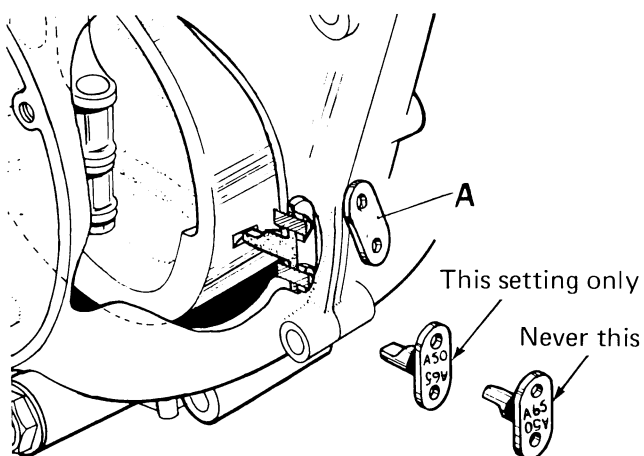

Fig. 21-20 Timing: pin through case (Triumph Norton Incorporated)
4. Pin fitting through case into flywheel slot (Fig. 21-20).